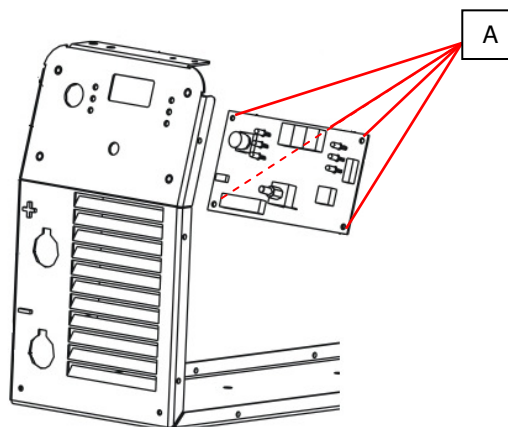

Figure 2
4. Using a 5,5 mm nutdriver remove the 4 nuts located on the corners of the solder side of the control board (A), see **Figure 2**.